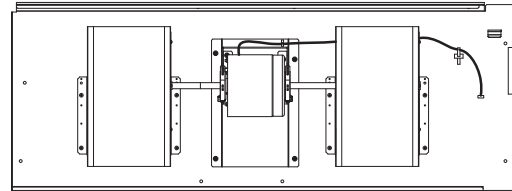

Fig.8
- (1) As shown in Fig. 8, reinstall the motor cable in its original position and reset it on the control board.